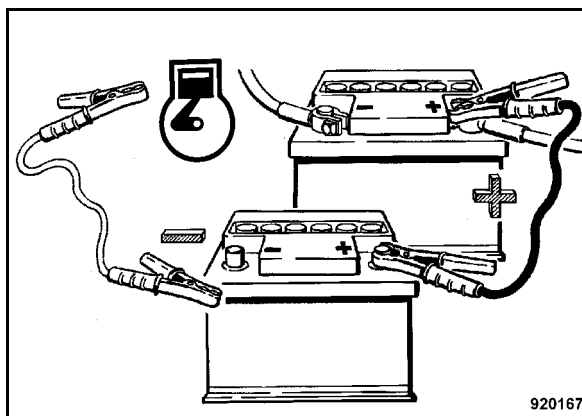

Fig. 197
- Then connect the ground cable first to the minus pole of the current supplying auxiliary battery and then to engine or chassis ground, as far away from the battery as possible (Fig. 197).